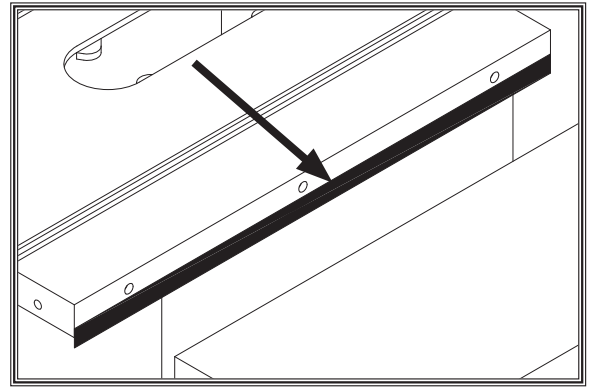

Figure 18. Masking tape location for tilting the extension wing up.
- If outside end of extension wing tilts down, remove wing and place a strip of masking tape along bottom edge of main table to shim end of wing up (see **Figure 18**).